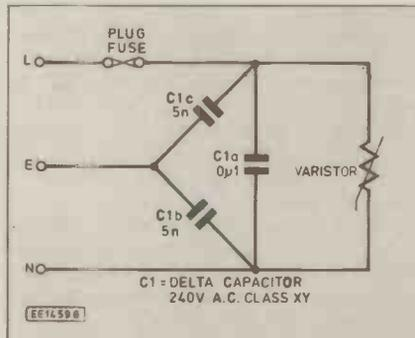

Fig. 2. Circuit diagram for the Spikeater.
The circuit diagram, which uses a varistor and a capacitor network, for the Spikeater is shown in Fig. 2. The varistor clips incoming transients and is wired across live (L) and neutral (N). It is a semiconductor device of a similar physical construction to a ceramic capacitor, with a cocktail of metal oxides taking the place of the ceramic dielectric.